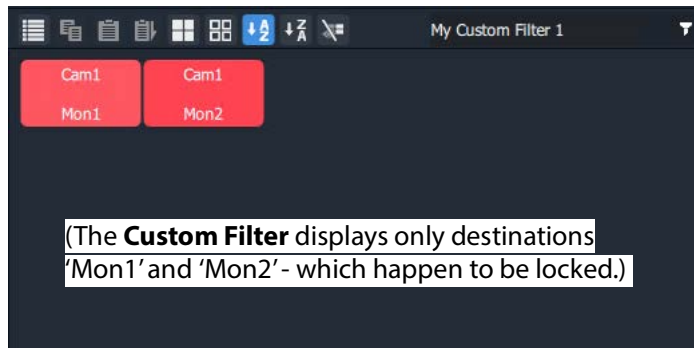

Fig. 12-64: Applied Custom Filter
- 2 Select the 'My Custom Filter 1' item. The filter is applied. In this example, only destinations 'Mon1' or 'Mon2' are shown if they have sources 'Cam1' or 'Cam2' routed to them. See Figure 12-64.